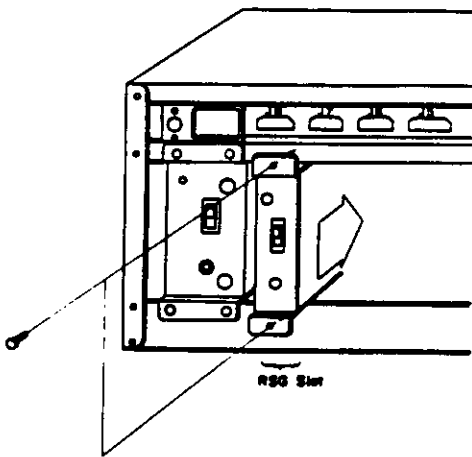

Figure 250-6 Installing RSG-E Unit
- B. Install an RSG-E unit into the RSG slot of the required CCU, as shown in Figure 250-6.